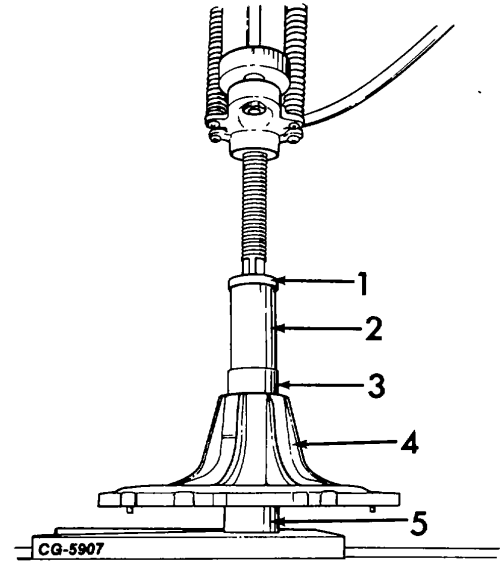

Figure 9. - Installing Shaft & Bearing
1. Support center of bearing housing (4, Fig. 9) with a sleeve(s) as shown.
2. Press bearing assembly (3, Fig. 9) until it bottoms in housing. **DO NOT PRESS ON SHAFT TIP.**